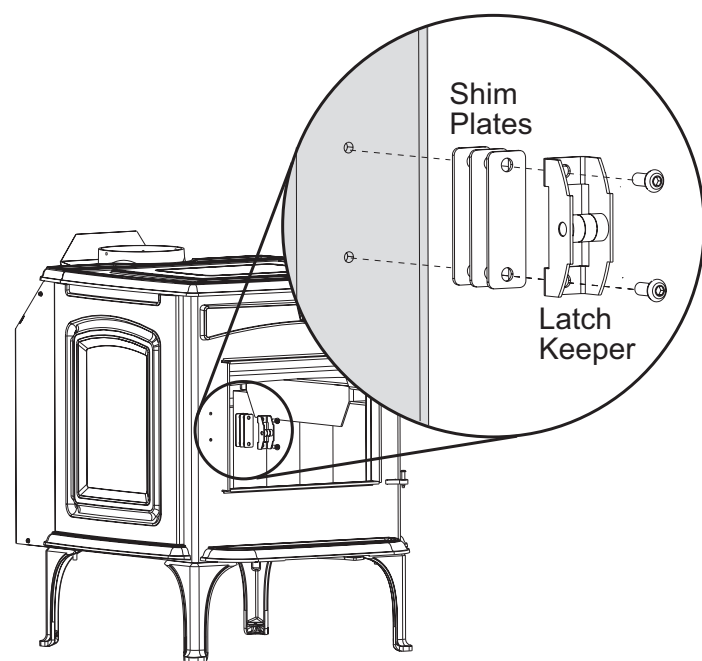

Figure 17. Latch adjustment.
1. Remove the two socket head screws and latch keeper from the stove. See fig. 17.